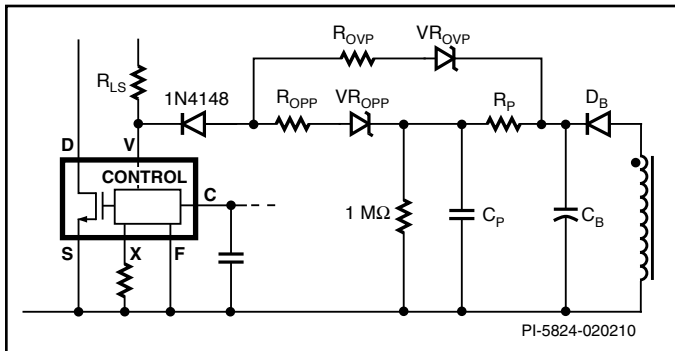

Figure 22. Implementation of Overvoltage Protection Together With Over-Power Protection Using the TOPSwitch-JX
- A soft finish circuit is recommended for high output voltage designs (>12 V) especially where large value output capacitors are used. This ensures start-up with full load at low line and also prevent output voltage overshoot. In Figure 22, R23, D6 and C19 show one implementation of the soft finish circuit.
Primary side sensed over-power protection can be implemented via the V pin by sensing the voltage on the bias winding. Figure 22 shows this configuration. Zener diode VR_{OPP} provides the output overvoltage protection and VR_{OPP} together with R_P and C_P provides overpower protection. This approach works well where the desired OPP limit is >150% of the full load output power.